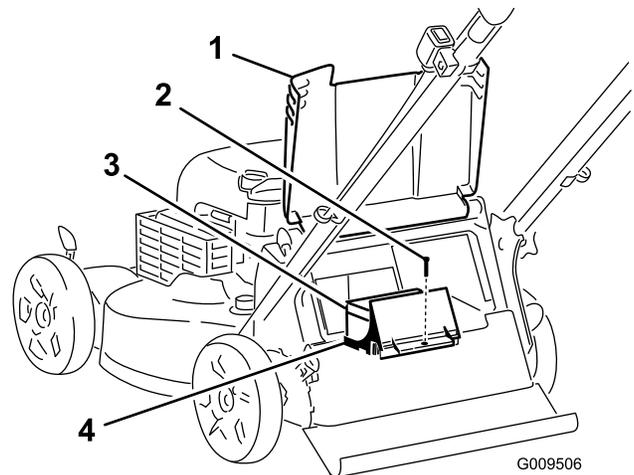
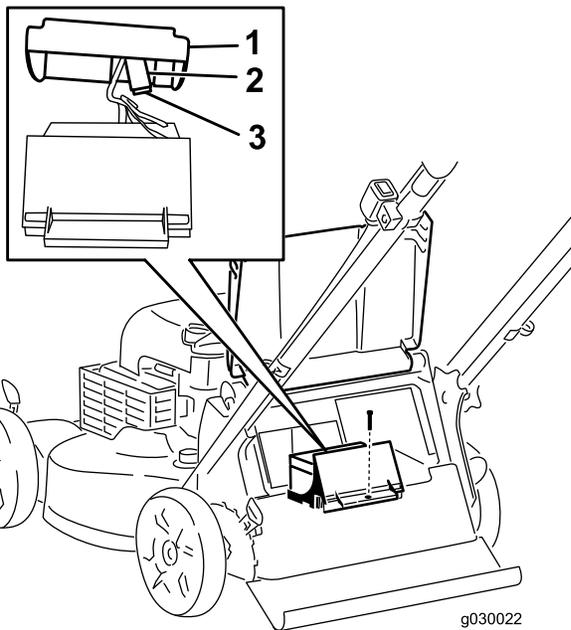

Figure 26
Figure 27
1. Raise the rear deflector and locate the battery compartment (Figure 26).
3. Remove the screw that secures the battery compartment, pull out the battery, and locate the fuse (Figure 26 and Figure 27).
4. Replace the fuse in the fuse holder (Figure 27).